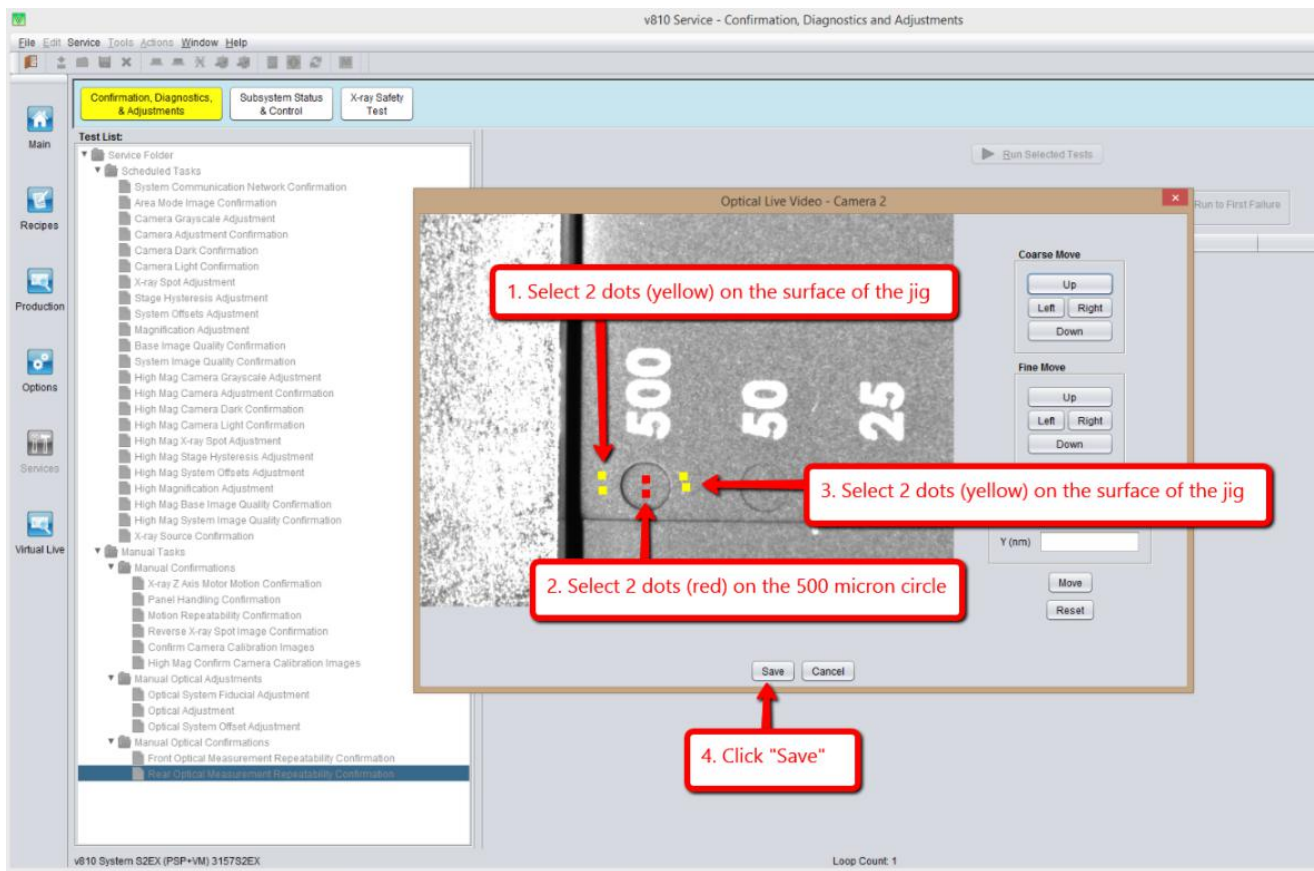

Figure 51 Adjustment Point
37. Select the points of the adjustment dot as shown in the Figure 51.